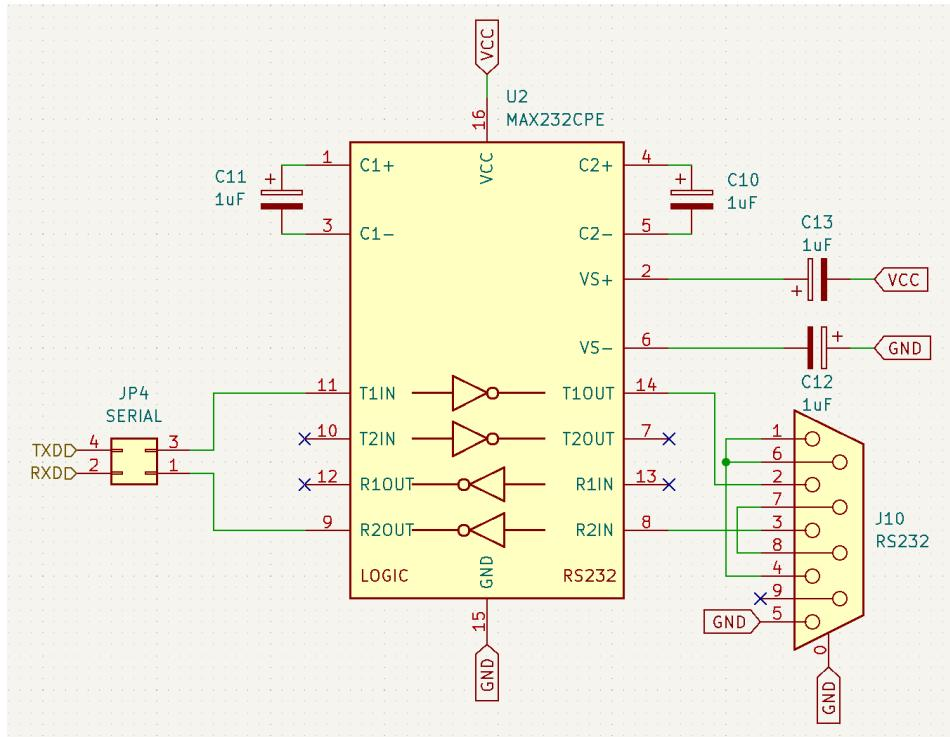

Figure 5: Schematic of the Serial Communication Part of the Board
- Finally, the board provides a *serial* connector (J10) which can be used for different purposes. The most common one is to connect it to a computer to send text messages back and forth. A MAX232 driver IC converts between the microcontroller's voltage levels (0V and 5V) and those required by RS-232 (-15V..-3V and +3V..+15V). It uses a charge pump involving C10..C13 to generate +9V and -9V from the 5V supply voltage. The ATmega has two pins, RX (Pin D0) and TX (Pin D1) which can be dedicated to serial communication. To connect these to the MAX232, mount jumpers on JP4, see Figure 5. Don't forget to dismount the jumpers before using these pins as GPIOs!
- Pin 2 of the MAX232 was connected via C13 to GND instead of VCC. While some manufacturers allow this (TI for example, see footnote to Figure 6 in the datasheet), others (like Maxim, see Figure 5 in the datasheet) do not and we've seen parts go up in smoke due to this. The remade board has it connected to VCC instead which works for all MAX232.